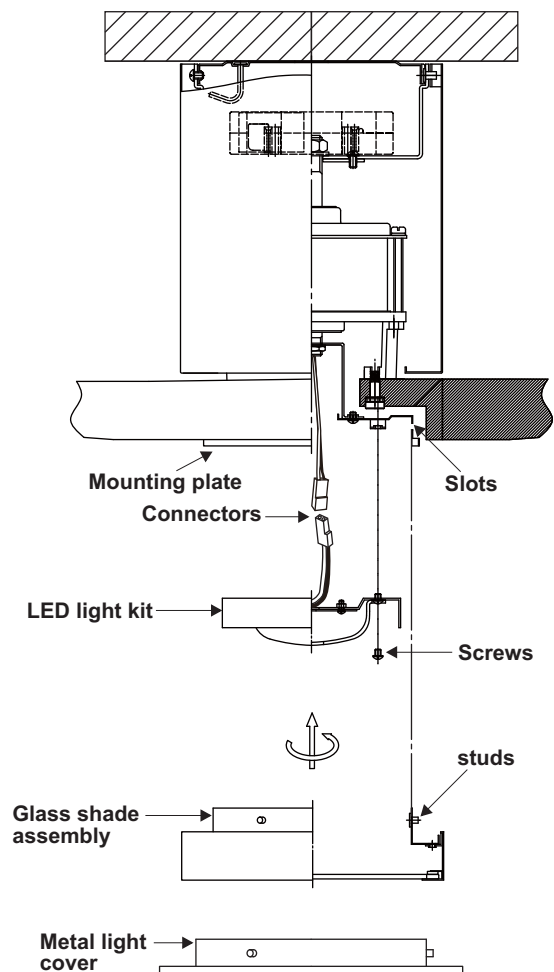

Figure 14
2. Raise and hold the LED light kit close to the mounting plate and proceed to do the wire connections. Make the 2-pin wire connections: (Fig. 14)
3. Place the key holes from the light kit over the 2 screws previously loosened from the mounting plate, turn the light kit until it locks in place at the narrow section of the key holes. Secure by tightening the 2 screws previously loosened and the one previously removed. (Fig. 14)